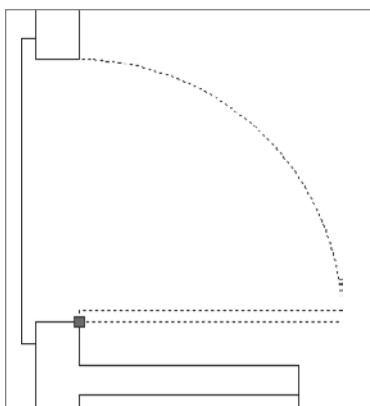

FIGURE 7.17 Blocks have only one grip, which is at the insertion point.
1. At the Command: prompt, click one of the door swings. The door and swing turn into dashed lines, and a square blue grip appears at the hinge point, as shown in Figure 7.17.